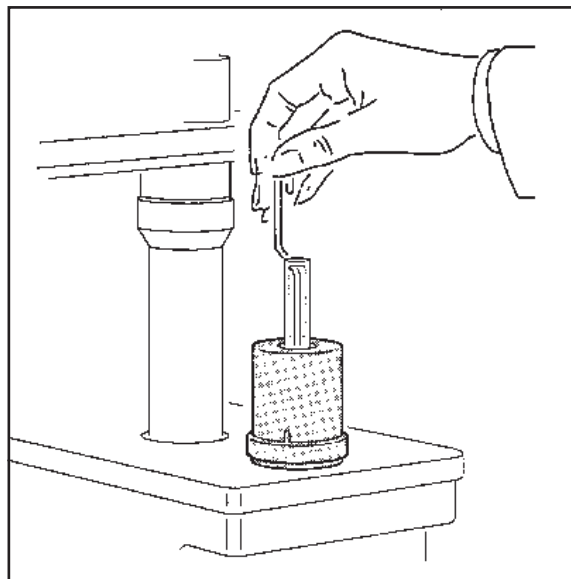

Figure 2.10
2. Insert the core end of the probe carefully into the opening in the TMA stage (see Figure 2.10).